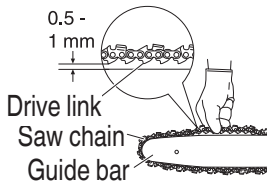

Fig. 16
6. Checking the saw chain tension (Fig. 16)